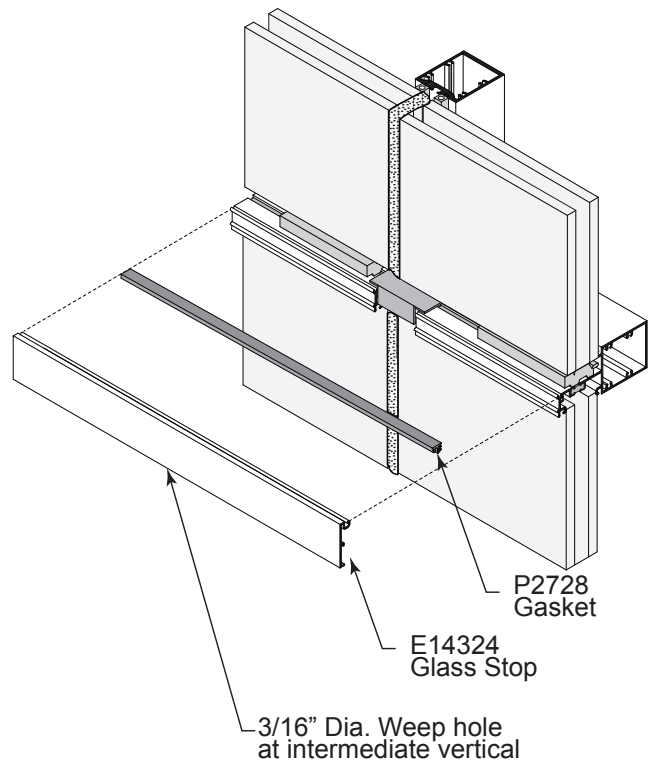

Fig.54.4
- D. Install exterior gaskets (P2728) on head, horizontal, and sill. Install outside glass stop (E14324) on horizontal. See **Fig 54.4**.